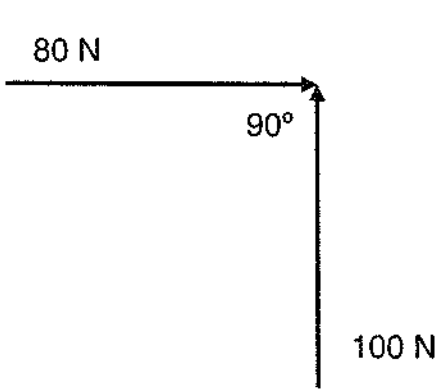

FIGURE 1
- 6.3 Calculate the magnitude and direction of the resultant of the two forces shown in FIGURE 1 (ADDENDUM - attached). State the angle between the resultant and the 80 N force.